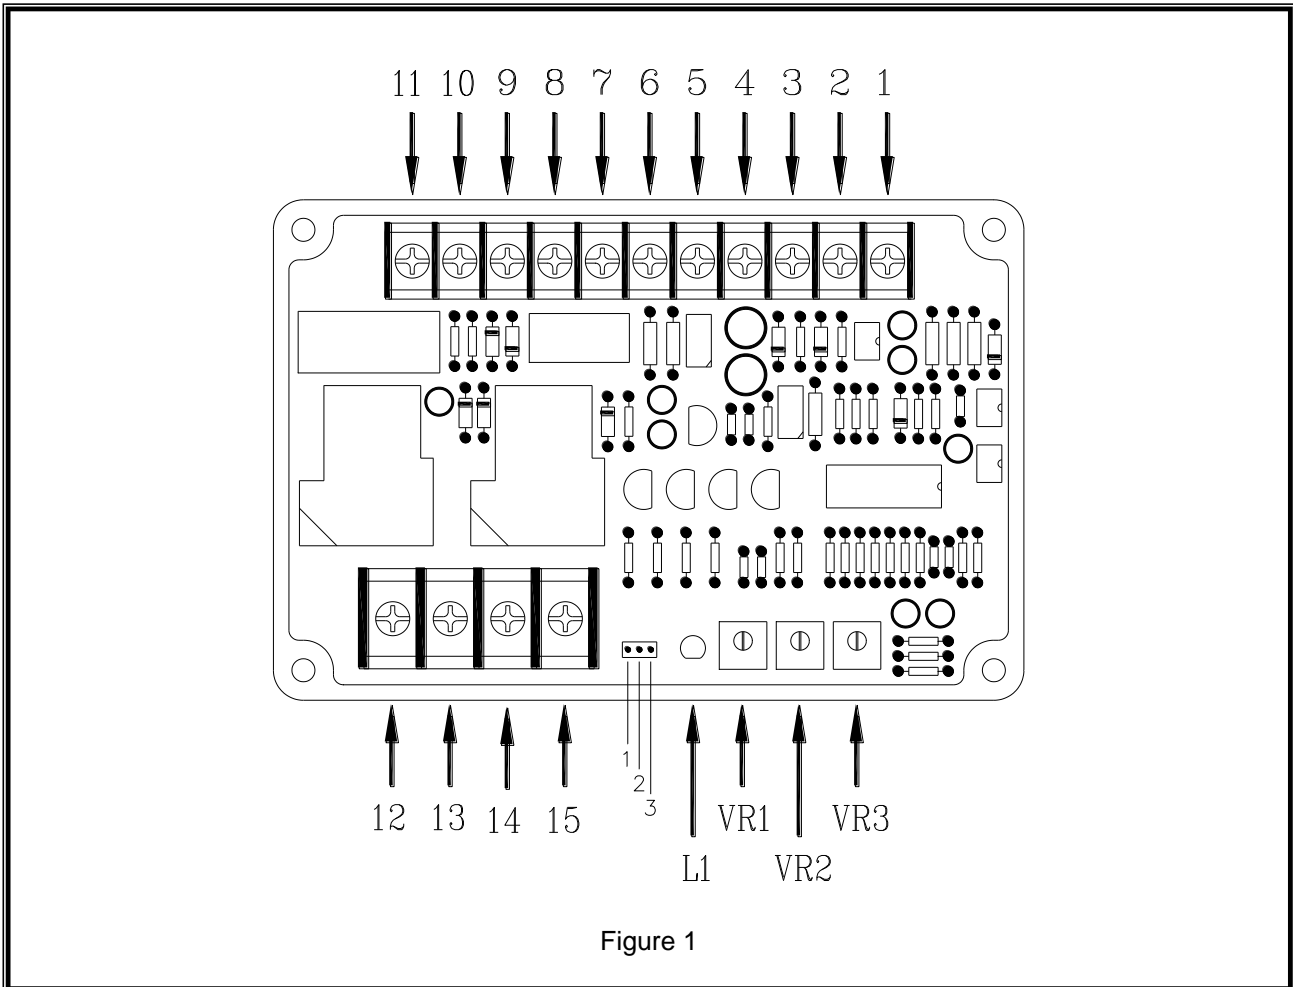

Figure 1
- 3.1 Terminals 1 & 2 (AC220V) : Generator 220Vac input terminals. When AC input voltage is greater than 130 Vac the control unit will cut the start motor signal output. (Refer to Figure 1)
- 3.2 Terminal 3 (CHARGE) : Charging alternator DC voltage input terminal. When the input voltage is greater than 7 Vdc the control unit will cut the start motor signal output. (Refer to Figure 1)
- 3.3 Terminals 4 & 5 (REM) : Remote start dry contact signal input terminals (Refer to Figure 1)
- 3.4 Terminals 6 & 7 (FAIL) : Generator fault auxiliary output terminals. (Refer to Figure 1)
- 3.5 Terminal 8 (ACC) : Connects to the ACC pin of the key start switch. For other brands of generator this is engine stop signal output terminal. (Refer to Figure 1)
- 3.6 Terminal 9 (AR/O) : Connects to the AR/O pin of the key start switch. For other other brands of generator this terminal has no function and no wiring is required. (Refer to Figure 1)
- 3.7 Terminal 10 (AR/I) : Connects to the AR/I pin of the key start switch. For other other brands of generator this terminal has no function and no wiring is required. (Refer to Figure 1)
- 3.8 Terminal 11 (P2) : Connects to the P2 pin of the key start switch. For other brands of generator this terminal has no function and no wiring is required. (Refer to Figure 1)
- 3.9 Terminal 12 (PRE-HEAT) : Engine pre-heat signal output terminal. (Refer to Figure 1)
- 3.10 Terminal 13 (START) : Engine Start Signal output terminal. (Refer to Figure 1)
- 3.11 Terminal 14 (BATT-) : Connect to the negative terminal of the battery. Wiring capacity must not be less than 35Amp. (Refer to Figure 1)
- 3.12 Terminal 15 (BATT+) : Connect to the positive terminal of the battery. Wiring capacity must not be less than 35Amp. (Refer to Figure 1)
- 4.1 VR1 : Engine stop adjustment for Energize-to-Stop mode. (Refer to Figure 1)
- 4.2 VR2 : Engine Pre-Heat adjustment. (Refer to Figure 1)
- 4.3 VR3 : Cranking time adjustment. (Refer to Figure 1)
- 5.1 L1 : Generator Fault Indicator. When the Generator Fault auxiliary contact has an output (closed) the indicator will light to indicate unit failure. (Refer to Figure 1)